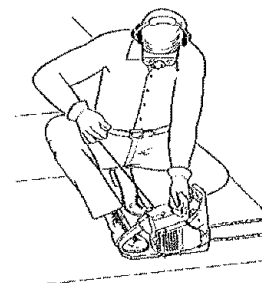

Fig. 7
4. Place the saw on a firm flat surface. Hold saw firmly as shown (Fig. 7).